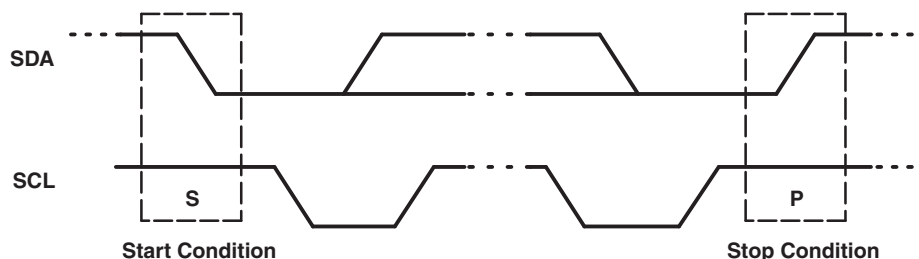

Figure 9. Start and Stop Conditions
Both data and clock lines remain high when the bus is not busy. A high-to-low transition of the data line while the clock is high is defined as the Start condition (S). A low-to-high transition of the data line while the clock is high is defined as the Stop condition (P) (see Figure 9).